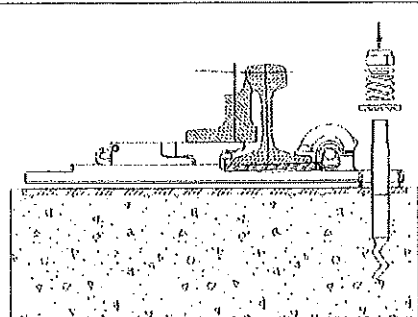

Fig. 2-Placing the fastening materials
4. Place insulation bushes, helicoil springs, collared washers and self-locking hexagonal nuts on the anchor bolts and tighten them. The compression springs must be tightened up to the defined height level – required torque: approx. 40Nm, Fig. 2.